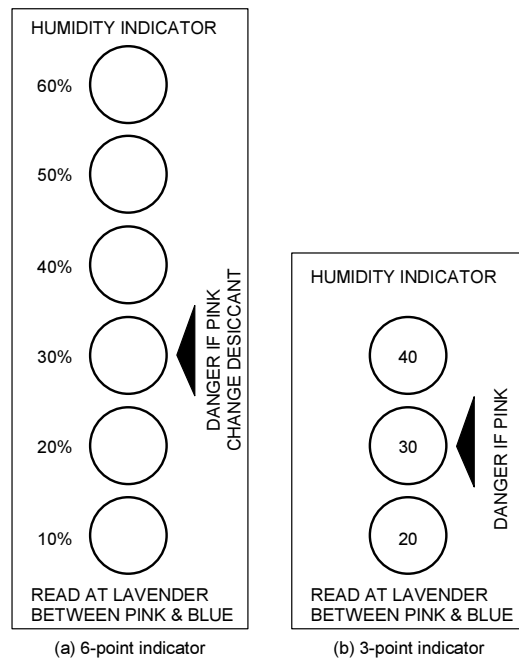

Figure 3.1 Humidity Indicator
- If the 12-month storage period has expired, or if the 30% humidity indicator shown in Figure 3.1 is pink when the packing is opened, it may be advisable, depending on the device and packing type, to bake the devices at high temperature to remove any moisture. Please refer to the table below. After the pack has been opened, use the devices in a 5°C to 30°C, 60% RH environment and within the effective usage period listed on the moisture-proof package. If the effective usage period has expired, or if the packing has been stored in a high-humidity environment, bake the devices at high temperature.